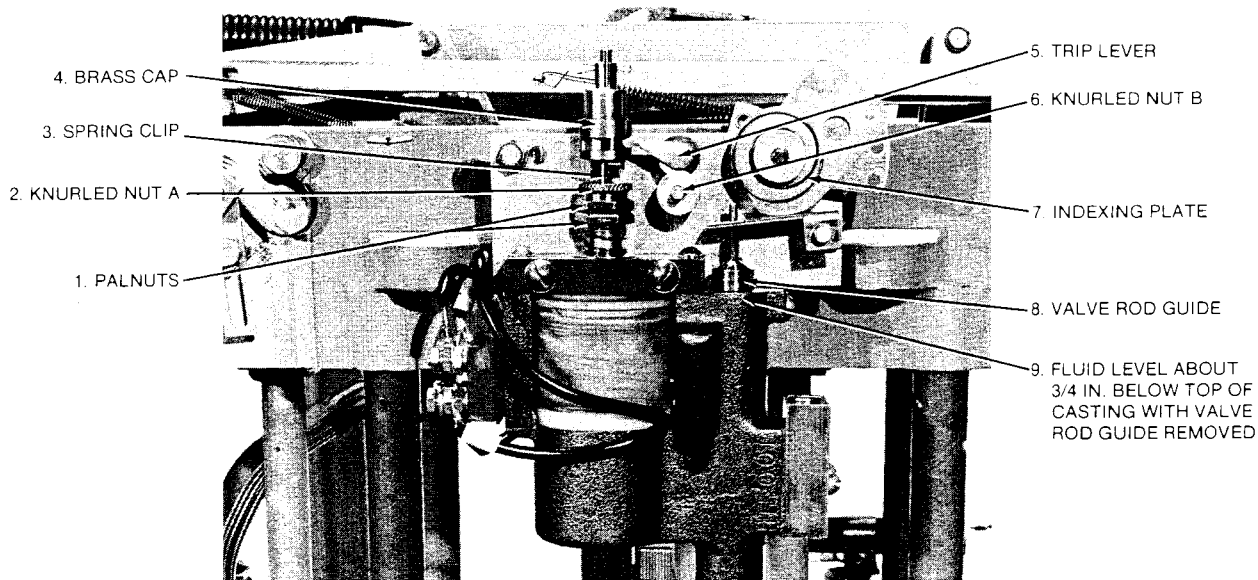

Figure 18.
1. Pull and turn the indexing plate (Figure 18) until the desired number (0F, 1F, 2F, 3F, or 4F) appears in the plate window.
1. Pull knurled nut A (Figure 18) down to release it from the spring clip.
1. Loosen knurled nut B (Figure 18) to release the trip lever from the grooves in the brass cap.